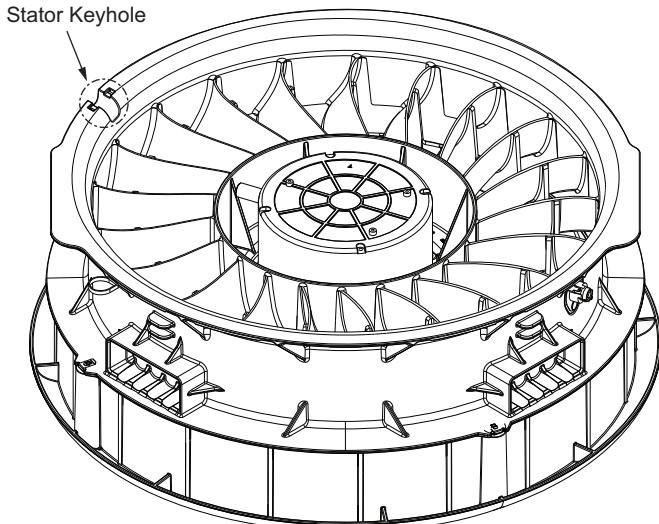

Fig. 29 – Stator Keyhole Location
3. Fit motor wire harness into keyhole feature on the side of the stator and pull wire harness out prior to fixing the motor to the stator. See Fig. 29.